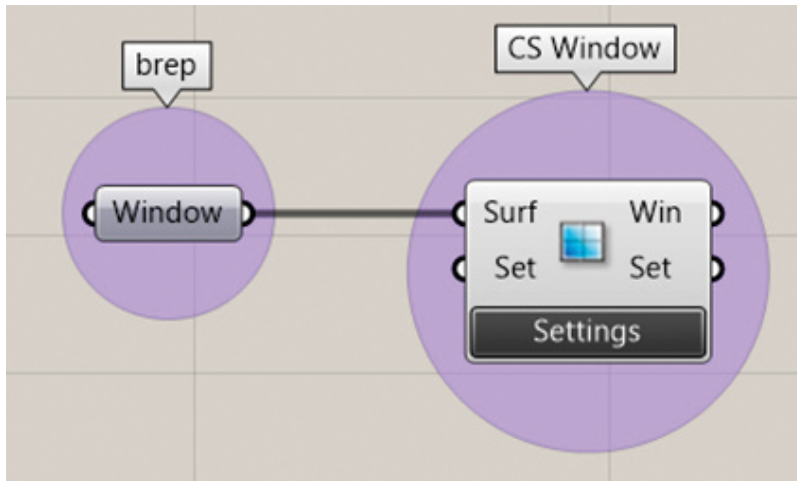

Figure 2 Connect "brep" containing window geometry to "CS Window" component
Step 2: Set up you window: Assign the window geometry to a brep or similar in grasshopper and connect that to the "CS Window" component from the ClimateStudio tab in grasshopper (See figure 2).